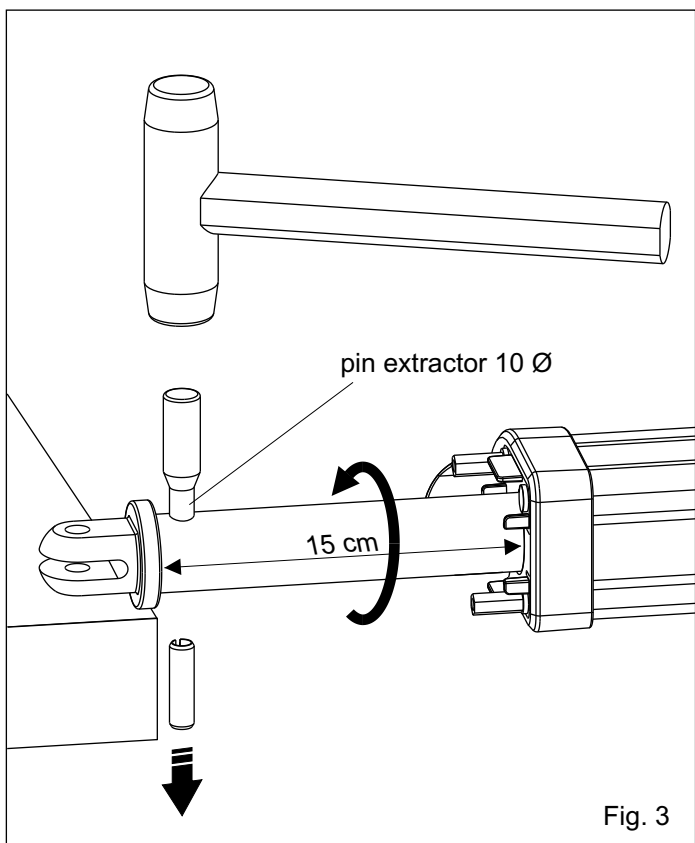

Fig. 3
3. Rotate clockwise the stem in order to pull it out of 15 cm and take out the lock pin of the front fork using a 10 Ø pin extractor and a hammer (Fig. 3).